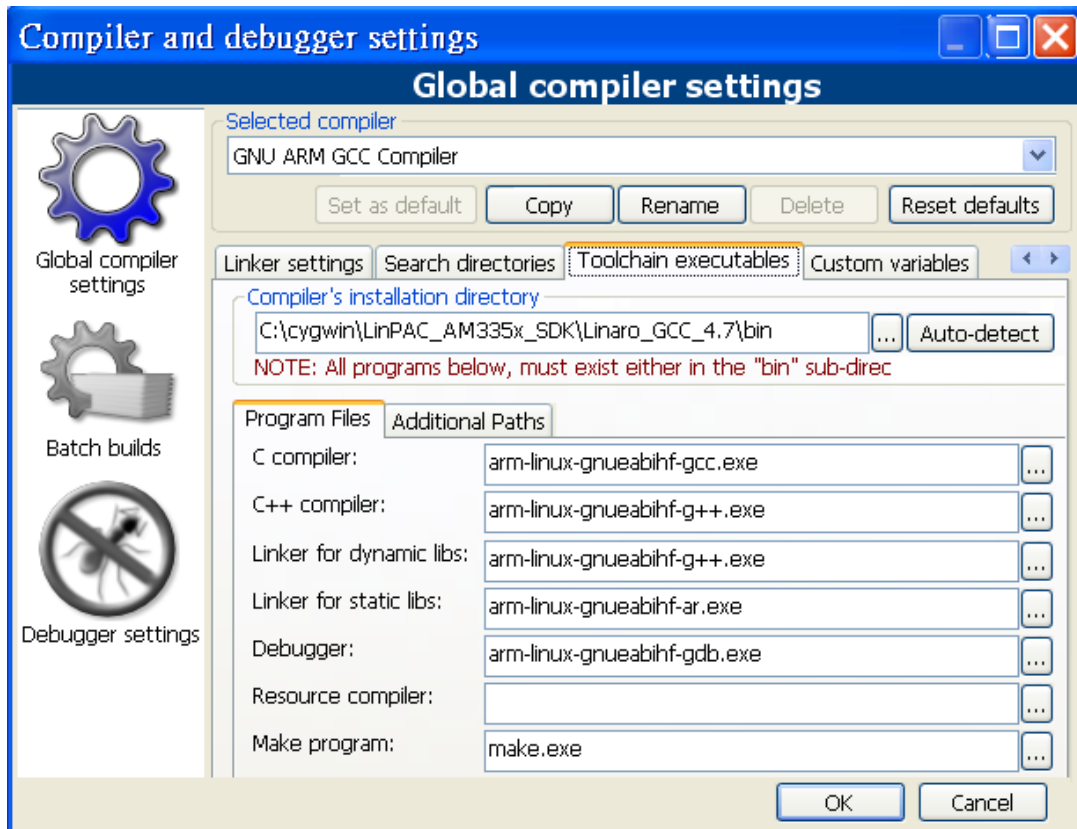

Fig. 3-20
- Check Compiler settings for Linaro GCC cross compiler : Click "Settings" > "Compiler" > "Toolchain executables tab" (refer to Fig.3-20) :